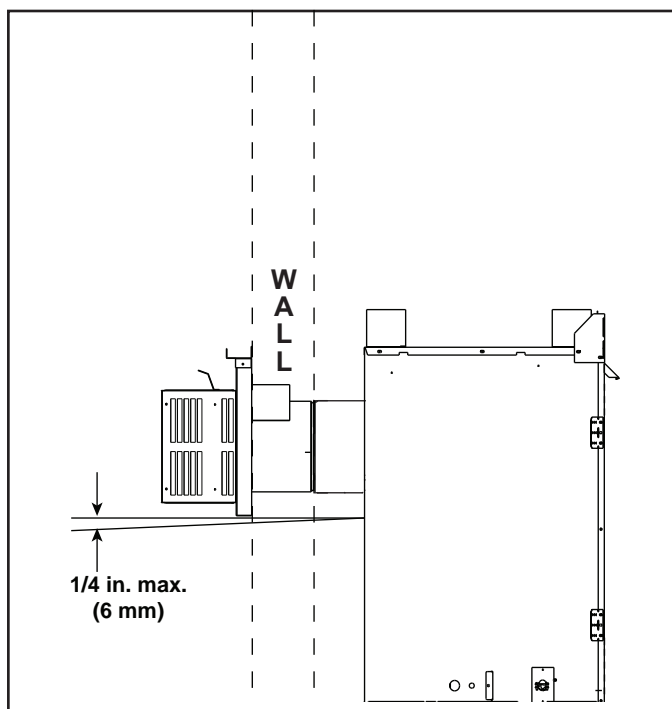

Figure 4.6 Vent Cap - Generic Appliance Shown
- Horizontal termination cap should have a 1/4 in. (6 mm) downward slant to allow any moisture in cap to be released. See Figure 4.6.